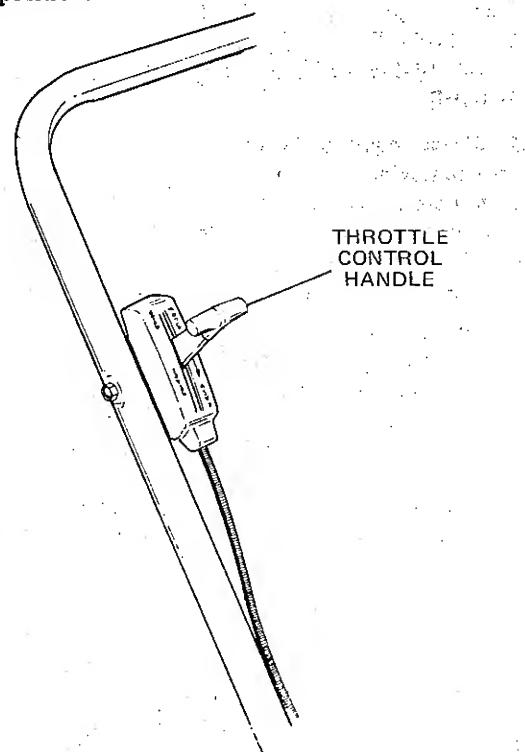

Figure 4
- Check throttle control adjustment. Place throttle control handle (Figure 4) rearward to STOP position and forward to START position.
2. Set controls. Move the throttle control handle forward to the **START** position (Figure 4) and replace the spark plug wire. Be sure spark plug contacts are clean.
c. If engine does not start, it may be flooded. Move throttle control handle (Figure 4) rearward to **STOP** position, and pull starter six times. Move throttle control handle forward to **START** position again and start engine. If engine still does not start, refer to Adjustments section of this manual for carburetor needle valve adjustment.
1. Engine speed. The throttle control handle (Figure 4) may be set anywhere in the mow range to suit varying mowing conditions. For mowing, average engine speed is from three-quarters to full. For cleaning leaves or bagging litter, run at full speed for greater blowing action.
Allow engine to operate at slow speed a few minutes before completely stopping. Move the throttle control handle (Figure 4) rearward to the **STOP** position. Remove spark plug wire from spark plug.